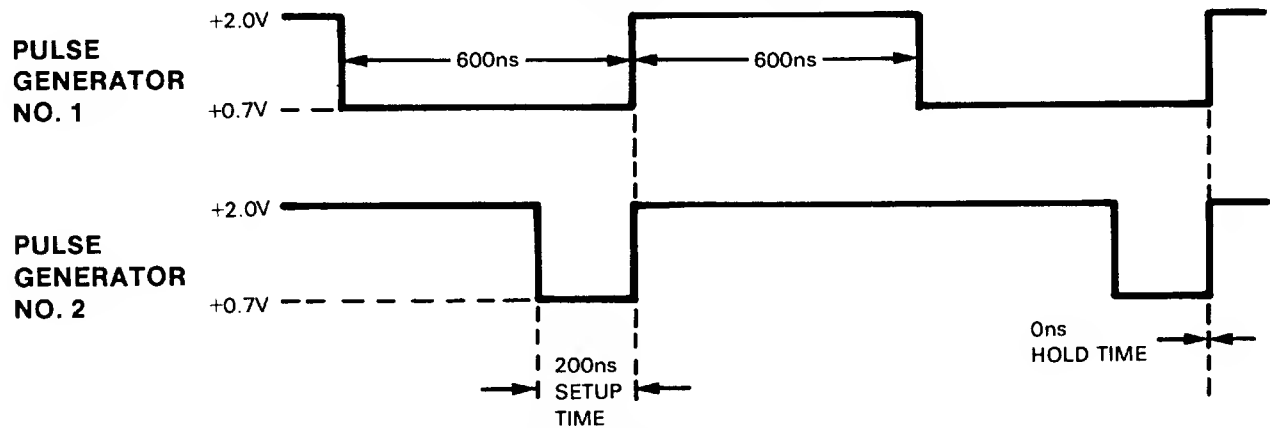

Figure 4-7. Address Lines Test Waveforms
- Adjust pulse generators for waveforms shown in figure 4-7.